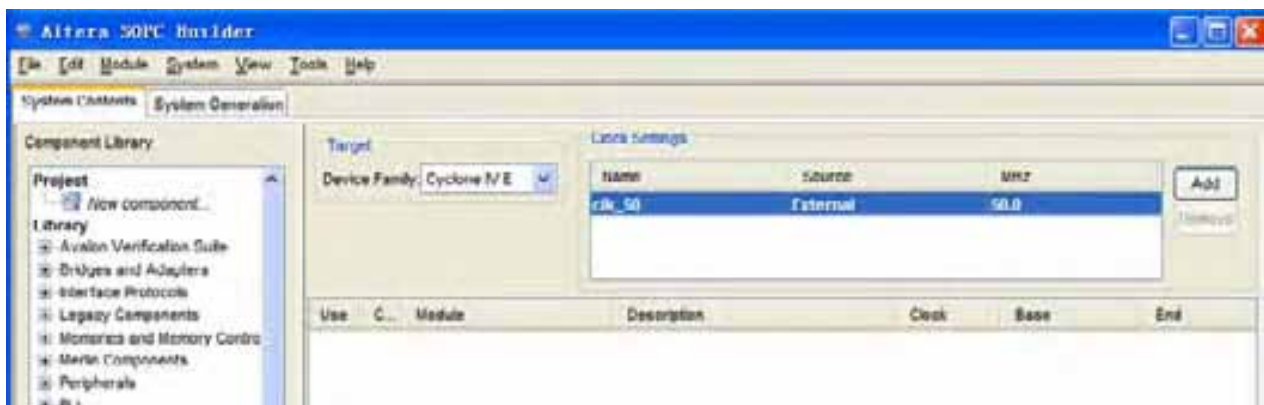

Figure 7-13 Rename Clock Name
7. Click the **clk_0** name in the Clock Settings table to rename **clk_0** to **clk_50**. Press **Enter** to complete the update, as shown in Figure 7-13.